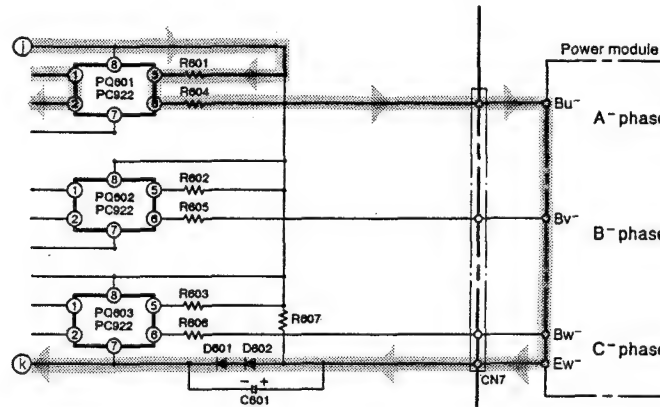

Fig. 7-4
Fig. 7-4 shows the lower arm drive circuit.
- When pin ③⑤ of the micro computer goes "Lo" → "Hi", a photocoupler between PQ601 pins ① and ② turns on and current flows to terminal ① → R601 → PQ601 → R604 → power module's Bu- terminals → Ew- terminals → D602 → D601 → terminal ① and drives the lower arm transistors. (Fig. 7-4)
- The signals which turn on or off according to the position detection signals are output from pins ③③ ③④ ③⑤ of the micro computer in the same way as in the upper arm drive circuit and are input to pins ① of photocouplers PQ601 and PQ602 via driver IC1.